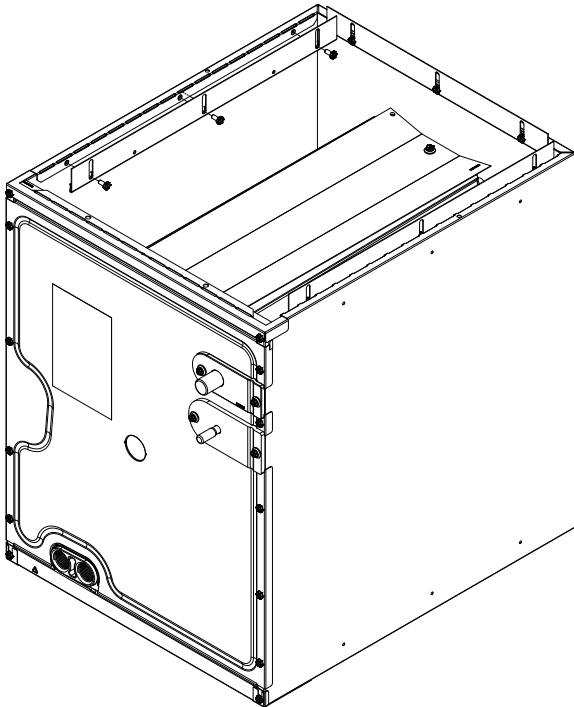

Figure 11
2. A duct flange kit can also be purchased from your distributor. (See Figure 11)